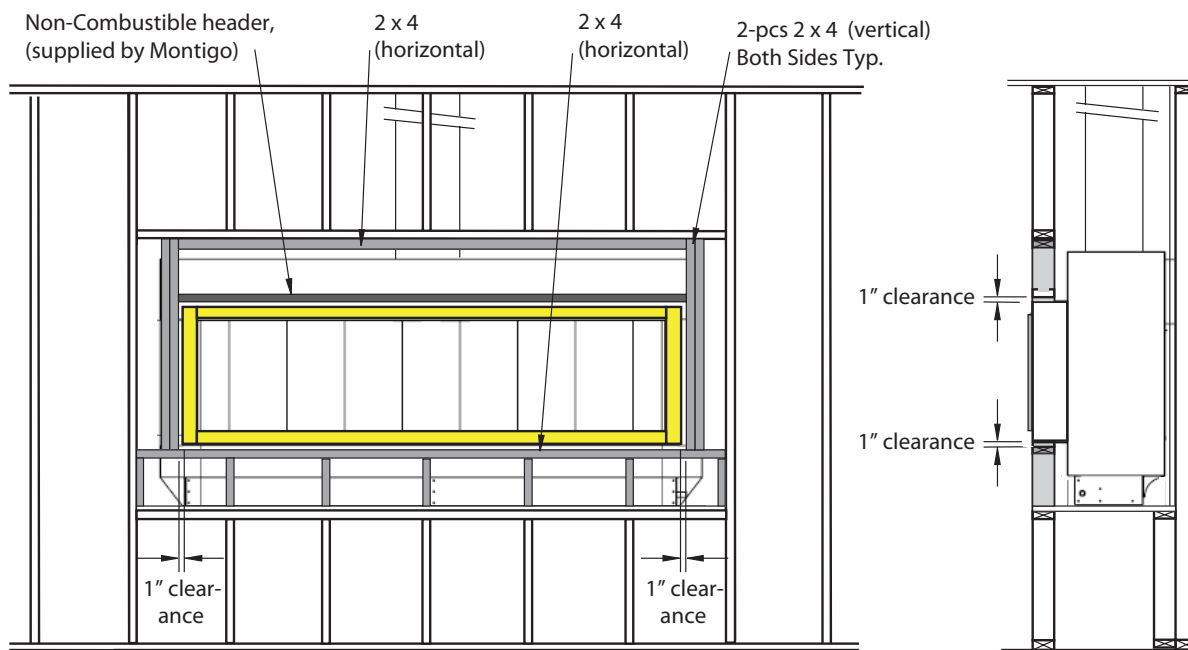
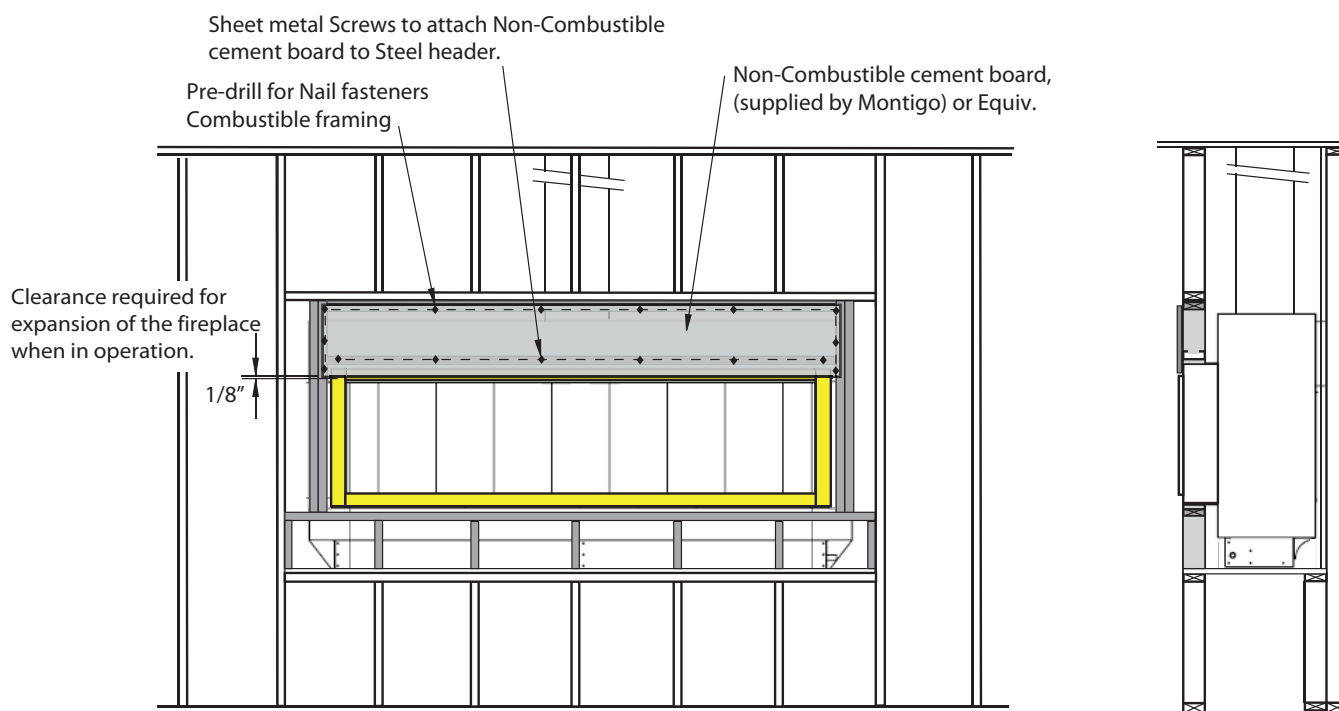

Figure 16b. Fireplace installation, (Ensure you maintain the 1" clearance to combustibles).
Figure 16c. Non-combustible Board over the Fireplace, (supplied by Montigo).
combustibles), **Figure 16b**. Next, cut four vertical 2 x 4's to install between the Upper and Lower Horizontal 2 x 4's, (2-pcs either side). (Ensure these are placed the required 1" clearance to combustibles). Cut the top 2 x 4 (horizontal) to fit between the vertical 2 x 4's (either side of fireplace) as shown. Last, install the Supplied Steel Header 1" above the fireplace throat.
Step 4. As shown in **Figure 16c**; Cut a sheet of Non-combustible concrete board to overlap the new Horizontal & Vertical 2 x 4's, See **Figure 16b**, Above. Place the Non-combustible wall board above the fireplace throat, allowing 1/8" clearance from the rim above the fireplace opening. Pre-drill the board with 1/8" drill and secure to framing with Nails, use flat heat sheet metal screws to fasten the board to the metal header.